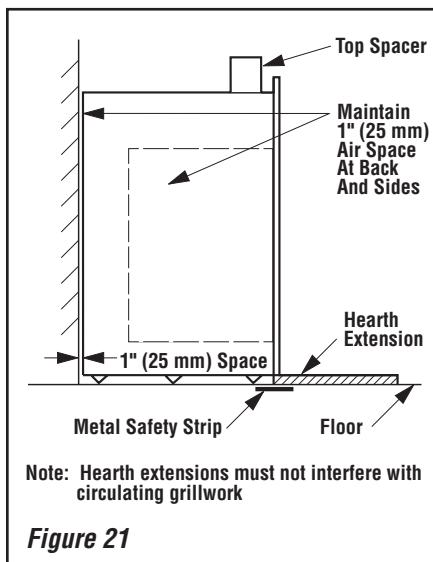

Figure 21
Step 2. Insert the provided metal safety strips, beneath the fireplace as illustrated (**Figures 21, 22 & 23**). The safety strips should overlap 1/2 min. for continual coverage of the floor.
Note: Install the hearth extension only as illustrated (see **Figures 21 & 22**).